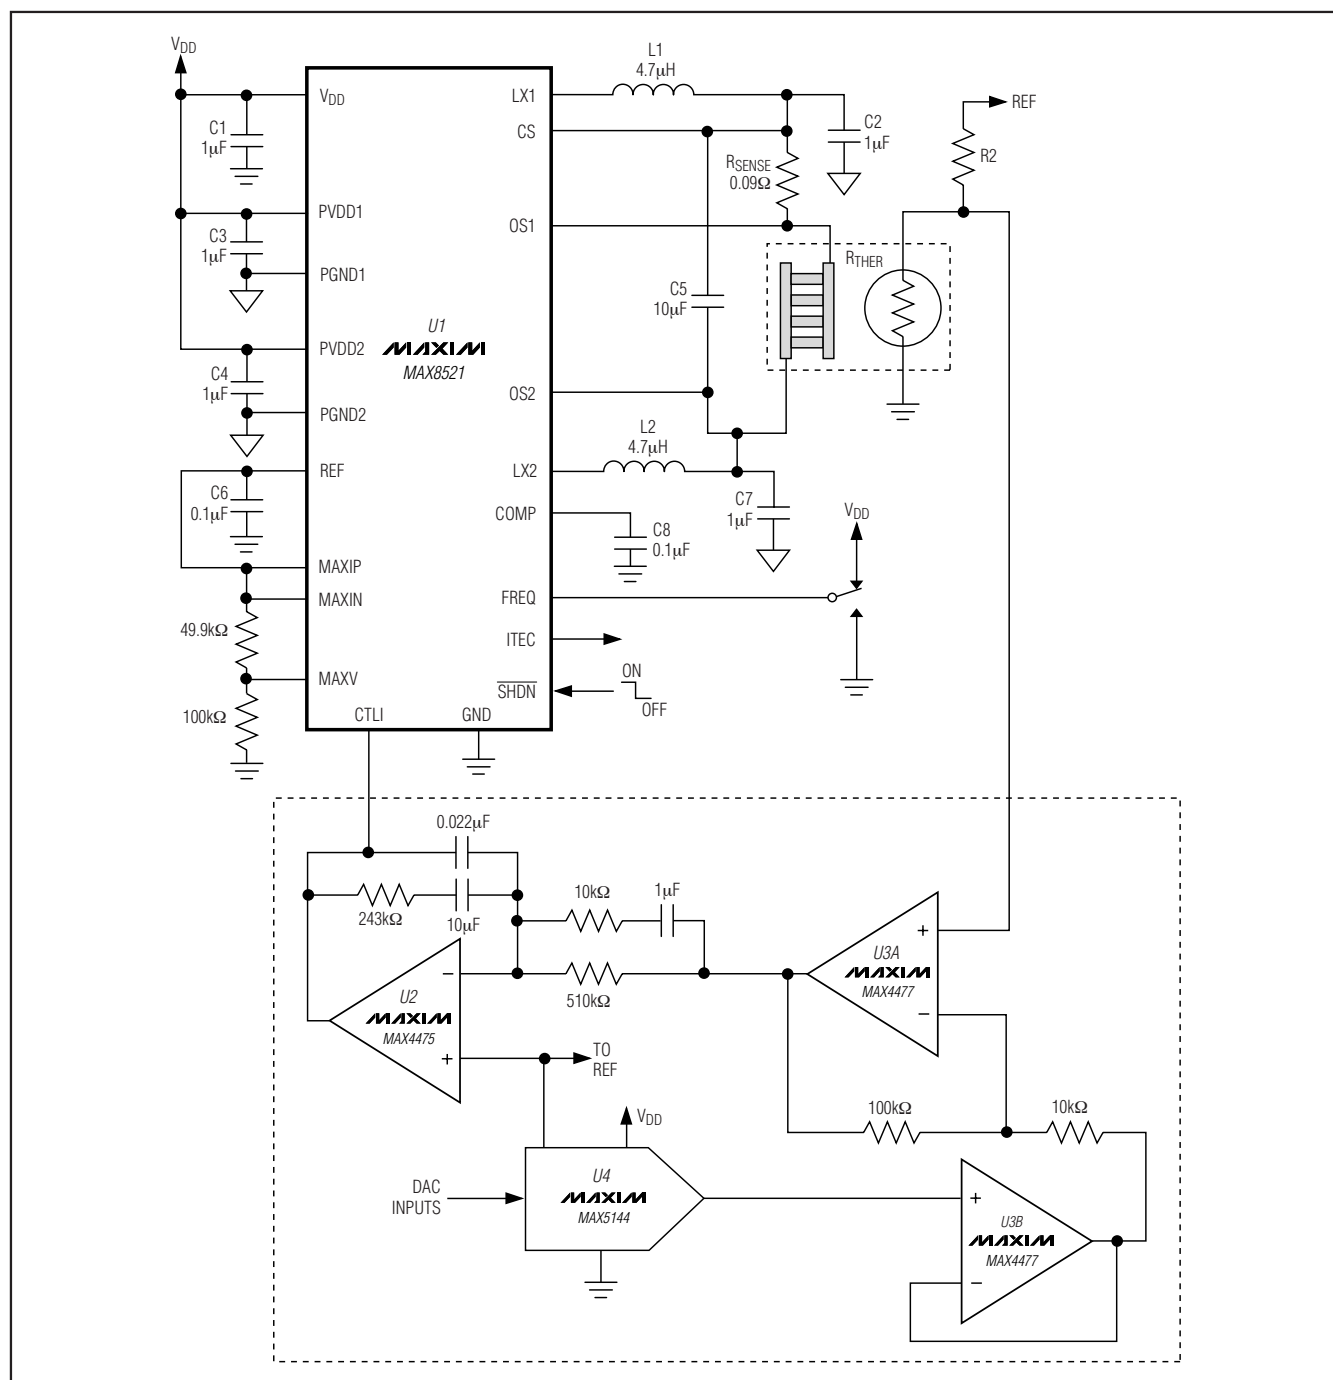

Figure 1. MAX8521 Typical Application Circuit
($V_{DD} = 5V$, circuit of Figure 1, $T_A = +25^\circ C$ unless otherwise noted.)
(V_{DD} = 5V, circuit of Figure 1, T_A = +25°C unless otherwise noted.)
The MAX8520/MAX8521 TEC drivers consist of two switching buck regulators that operate together to directly control the TEC current. This configuration creates a differential voltage across the TEC, allowing bi-directional TEC current for controlled cooling and heating. Controlled cooling and heating allow accurate TEC temperature control to within 0.01°C. The voltage at CTLI directly sets the TEC current. An external thermal-control loop is typically used to drive CTLI. Figures 1 and 2 show examples of the thermal-control-loop circuit.
Table 1. TEC Connection for Figure 1
The MAX8520/MAX8521 include an on-chip voltage reference. The 1.50V reference is accurate to 1% over temperature. Bypass REF with 0.1μF to GND. REF can be used to bias an external thermistor for temperature sensing as shown in Figures 1 and 2.
The common-mode filter capacitors (C2 and C7 of Figure 1) are used as filter capacitors to ground for each output. The output ripple voltage depends on the capacitance, the ESR of these capacitors, and the inductor ripple current. Ceramic capacitors are recommended for their low ESR and impedance at high frequency.
The differential-mode filter capacitor (C5 in Figure 1) is used to bypass differential ripple current through the TEC as the result of unequal duty cycle of each output. This happens when the TEC current is not at zero. As TEC current increases from zero, both outputs move away from the 50% duty-cycle point complementarily. The common-mode ripple decreases, but the differential ripple does not cancel perfectly, and there will be a resulting differential ripple. The maximum value happens when one output is at 75% duty cycle and the other is at 25% duty cycle. At this operating point, the differential ripple is equal to 1/2 of the maximum common-mode ripple. The TEC ripple current determines the TEC performance, because the maximum temperature differential that can be created between the terminals of the TEC depends on the ratio of ripple current and DC current. The lower the ripple current, the closer to the ideal maximum. The differential-mode capacitor provides a low-impedance path for the ripple current to flow, so that the TEC ripple current is greatly reduced. The TEC ripple current then can be calculated as follows:
There are numerous ways to implement the thermal loop. Figures 1 and 2 show designs that employ precision op amps, along with a DAC or potentiometer to set the control temperature. The loop can also be implemented digitally, using a precision A/D to read the thermistor or other temperature sensor, a microcontroller to implement the control algorithm, and a DAC (or filtered-PWM signal) to send the appropriate signal to the MAX8520/MAX8521 CTLI input. Regardless of the form taken by the thermal-control circuitry, all designs are similar in that they read temperature, compare it to a set-point signal, and then send an error-correcting signal to the MAX8520/MAX8521 that moves the temperature in the appropriate direction.
6) To ensure high DC-loop gain and minimum loop error, keep the board layout adjacent to the negative input pin of the integrator (U2 in Figure1) clean and free of moisture. Any contamination or leakage current into this node can act to lower the DC gain of the integrator which can degrade the accuracy of the thermal loop. If space is available, it can also be helpful to surround the negative input node of the integrator with a grounded guard ring.